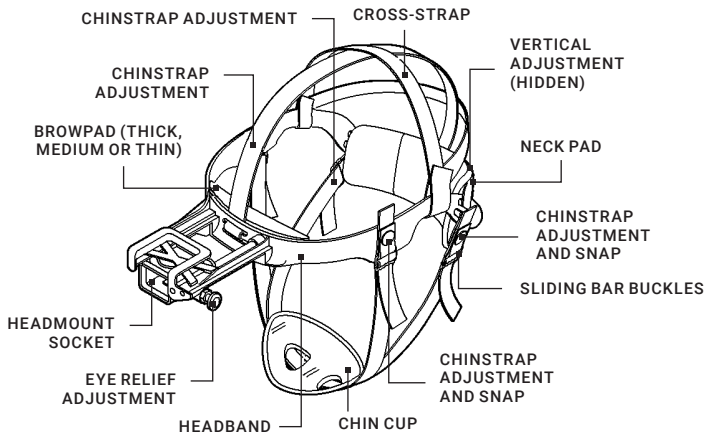

FIGURE 2-3. HEADMOUNT ADJUSTMENTS
1. Before putting the head mount on, loosen the four ends of the chin strap (approximately two inches from the sliding bar buckles; see Figure 2-3).
If the head mount is too loose, remove the attached thin brow pad (Figure 2-3) and replace it with either the medium or thick brow pad (these are stored in the carrying case). Refer to Paragraph 3.1.2 for removal and replacement of the brow pads.
2. Snap the front and rear clasps into place (Figure 2-3).
3. Using both hands, grab the neck pad (Figure 2-3) and pull the harness over your head, sliding the neck pad down over the back of your neck.